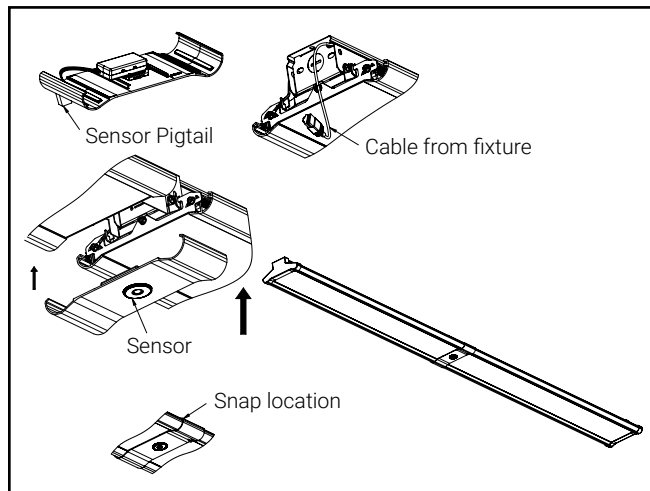

Figure 23
5. Connect the cable coming from the end of the fixture to the sensor pigtail. Ensure all of the wire harnesses are pushed upward and out of the way. Make sure to align the sensor with the cutout in the channel connector, as applicable before installing. Then push the trim piece upward so the ends snap over the side rails. There are bumps on the inside of the trim piece to center it. After installed the trim piece will sit flush with the rails and waveguide. (Figure 23)